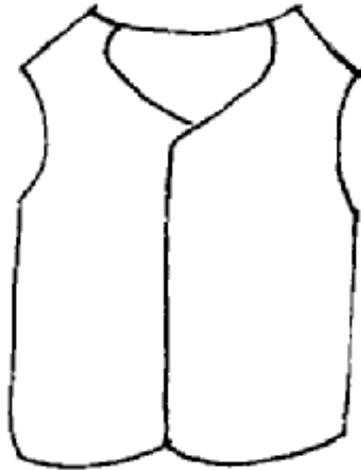

Fig. 5
- 3 Fig. 5 shows an incomplete design for a cyclist's high visibility safety vest. The safety vest is to be made from man-made fabric.